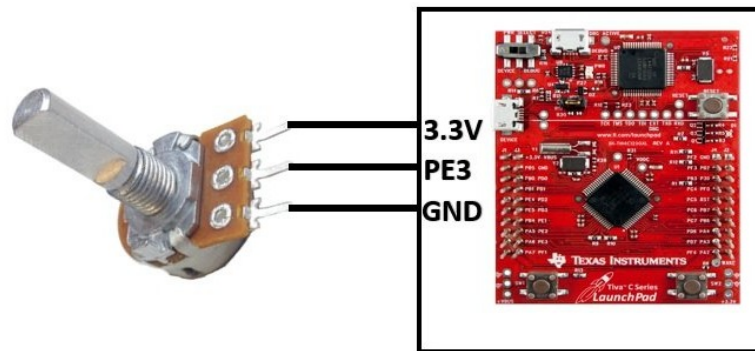

Figure 8: Pin Configuration of Potentiometer with TivaC
In Energia IDE, unlike Kiel uVision, we can use TivaC LaunchPad pins for various peripherals without the need to activate Ports using registers or specifying function of the pin. But it also comes with limitations of usability and programmable scope of the board. In Energia, we can refer to Pins of TivaC directly using numeric digit like 1,2,3.. and so on. Pin map for the EK-TM4C123GXL LaunchPad is given in Fig. 8 with Black Columns under J1, J2, J3 and J4.
1. Set the pin connections using Energia Pin Mapping in Fig. 8.